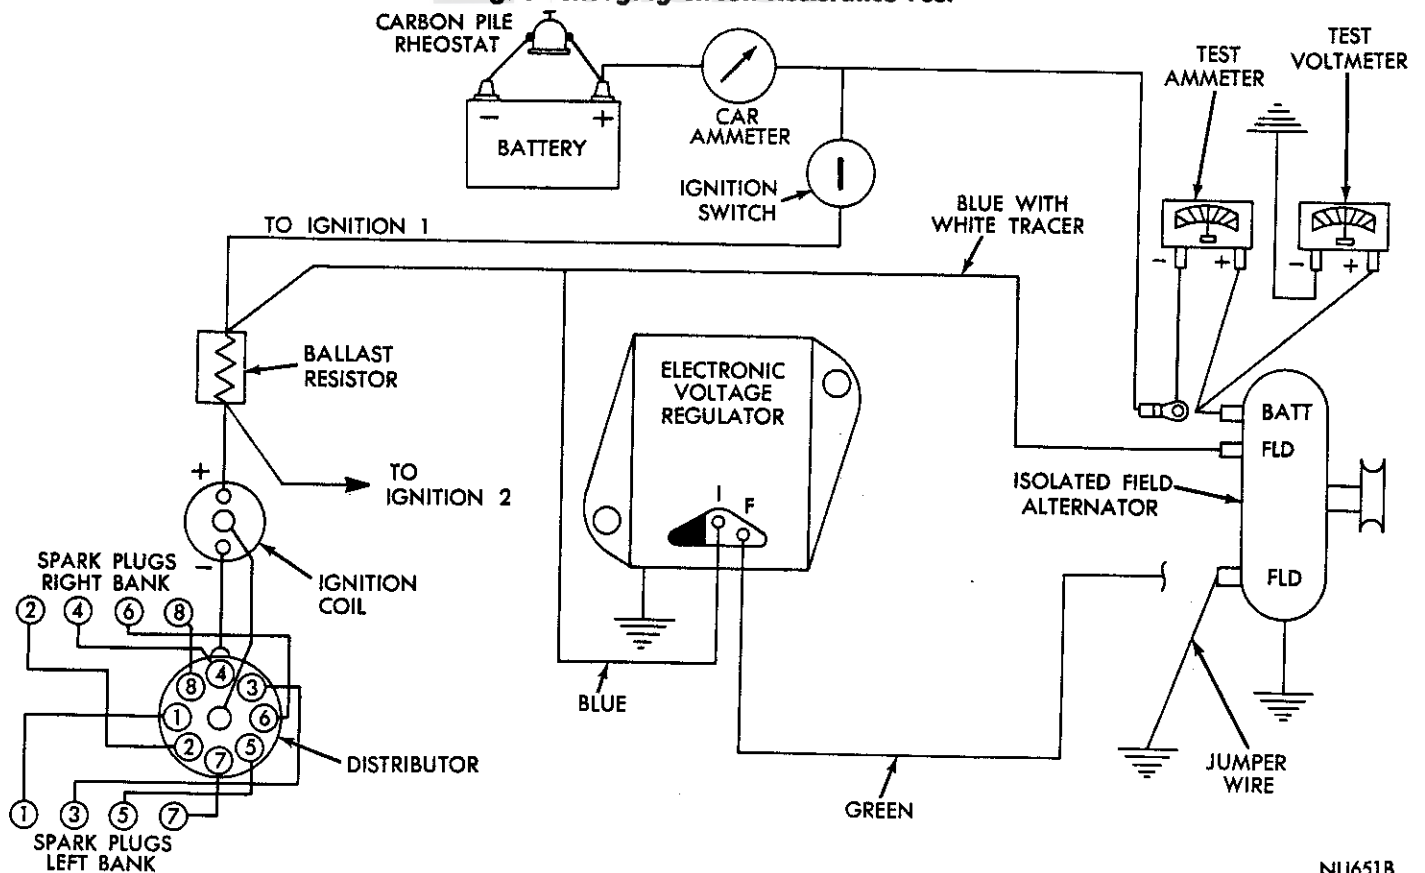

Fig. 4—Current Output Test
(11) Then, to make the current output test, move the negative lead of the voltmeter to a good ground. Move the positive lead of the voltmeter to "Batt" terminal of the alternator (Fig. 4).
(12) Start and operate the engine at idle. Immediately after starting, reduce engine speed to idle.
(13) Adjust the carbon pile and engine speed in increments until a speed of 1250 rpm and a voltmeter reading of 15 volts is obtained.
(15) Observe the reading on the test ammeter. The output current should be within the limits shown in the "Specifications". If the output is slightly less (5 to 7 amperes) than specified, it may be an indication of possible "open" rectifier or other alternator internal problems. If the output is considerably lower than that specified, it may be an indication of a possible "shorted" rectifier or other internal problems. In either case, the alternator should be removed and tested on the bench before disassembly. If the alternator current output tested satisfactorily, reduce engine speed, turn off carbon pile, and turn off ignition switch.
(16) Disconnect battery ground cable.
(17) Remove test ammeter, voltmeter, tachometer,